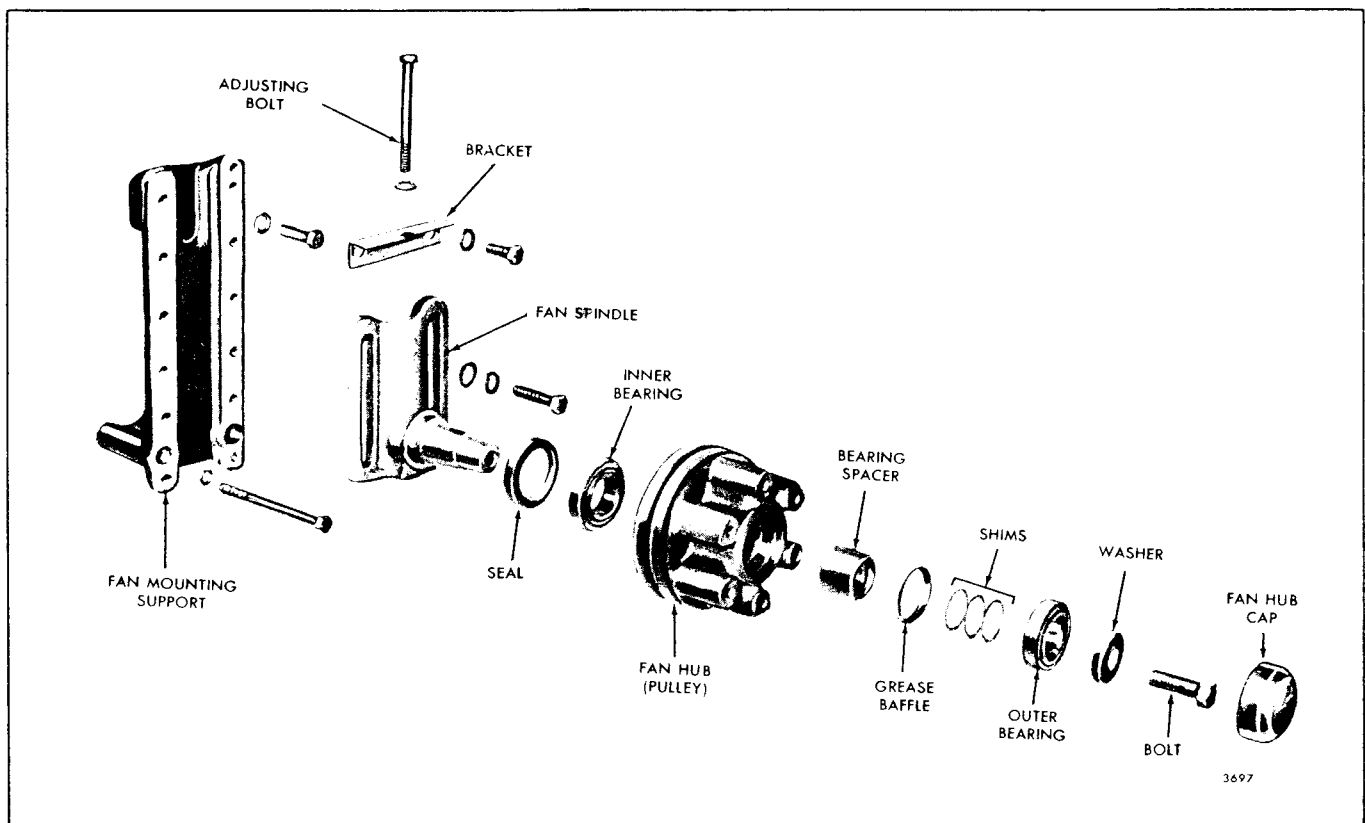

Fig. 10 - Typical Fan Hub and Spindle Details and Relative Location of Parts (6V and 8V Engine)
2. Install the drive belts and adjust the belt tension as outlined in Section 15.1. If used, install the adjusting bracket, bolt and plain washer shown in Fig. 10.